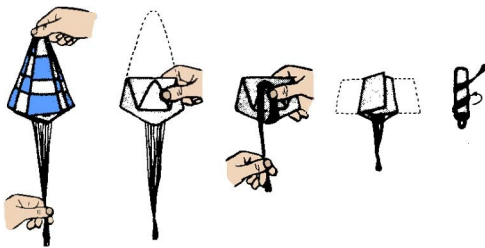

Figure 9
- **Step 25** Use the illustration in Fig. 9 above to fold the parachute. Wrap the shroud lines around the parachute in a loose manner.